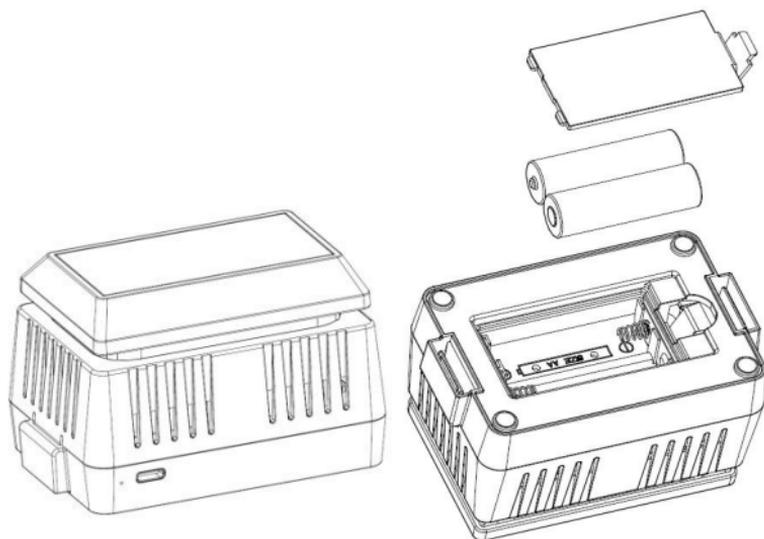

Figure 1
1. Remove the battery door on the base of the air quality sensor as shown in Figure 1